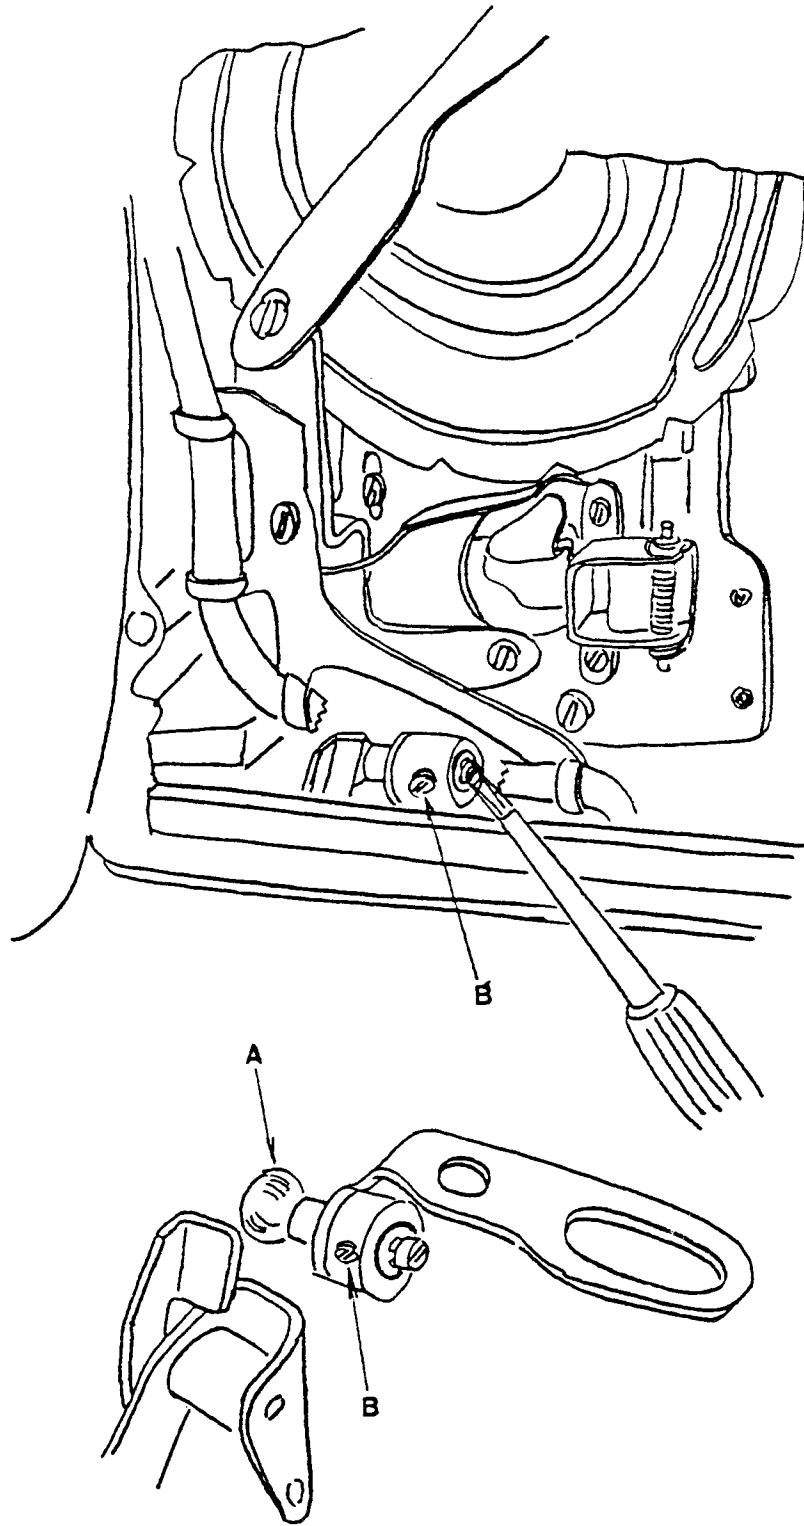

Fig. 28
4. Loosen set screw (B) holding cam controlled feed crank actuating lever ball stud (eccentric) (A). (Fig. 28).
5. Turn eccentric ball stud (A) clockwise to lengthen forward stitch length, and counterclockwise to lengthen reverse stitch. When setting is balanced, tighten set screw (B).